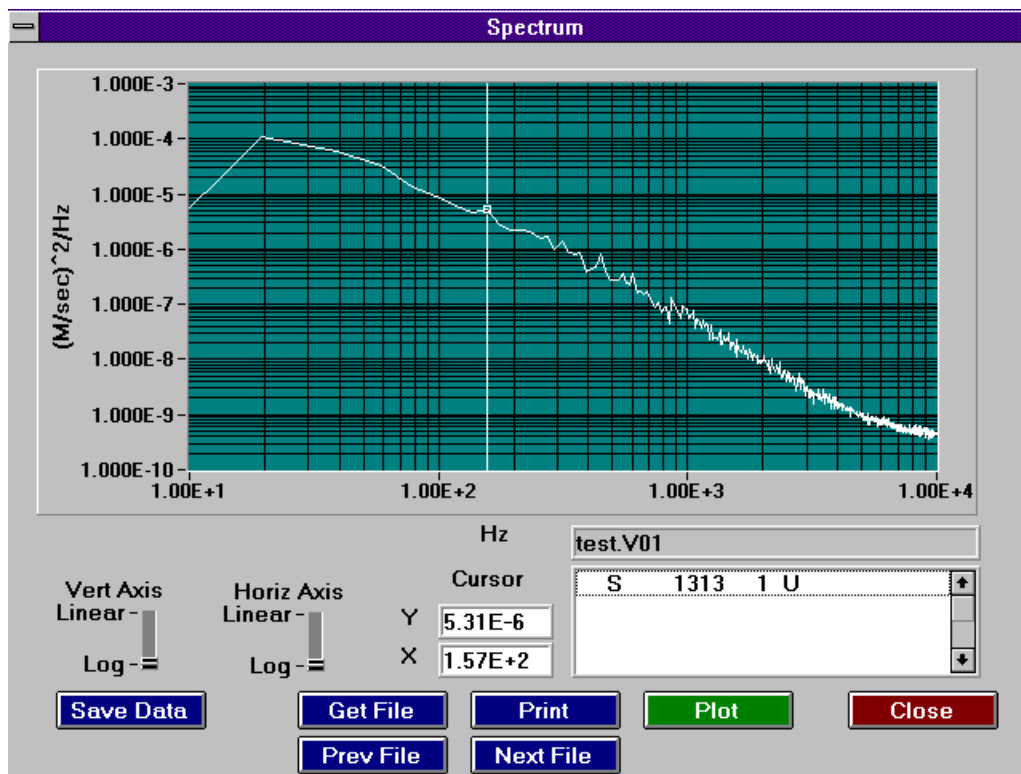

Figure 7-13
3. Click on **Spectrum Analysis**. The Spectrum Analysis screen appears (Figure 7-13).